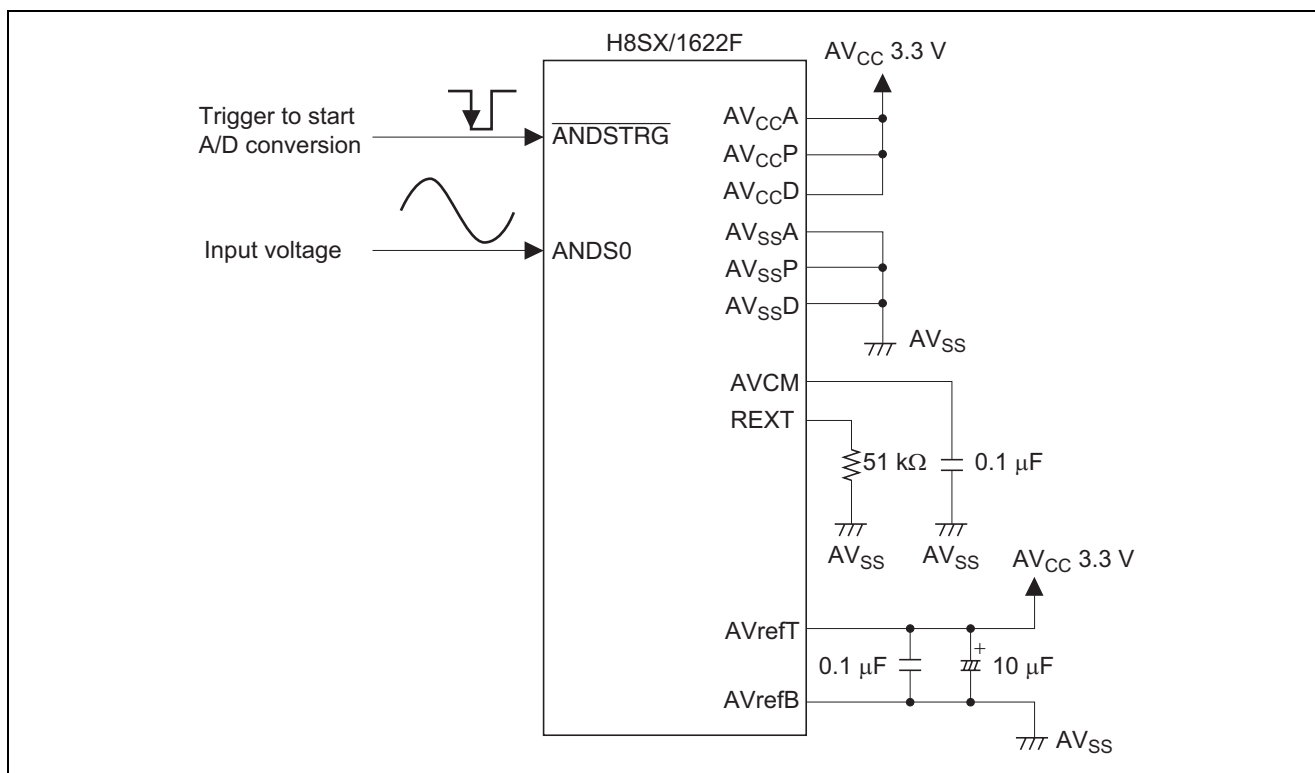

Figure 1 Example of Connection for $\Delta\Sigma$ A/D Conversion in Single Mode
1. Figure 1 shows an example of the connections for $\Delta\Sigma$ A/D conversion in single mode.